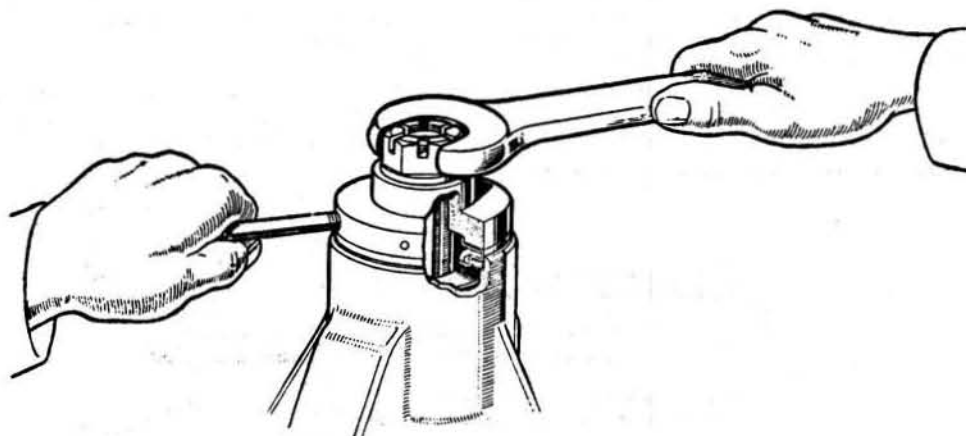

Fig.8.6. Fitting the pinion oil seal
- 10 Place the oil seal with the dust excluder flange uppermost (not forgetting the oil seal gasket used with the metal cased type seal used on later models) in position. Fit the installation collar, Tool number SL.4, fit the pinion nut and washer and then tighten down on the nut to drive the assembly home as illustrated in Fig.8.6. Remove the nut and washer and the installation collar.